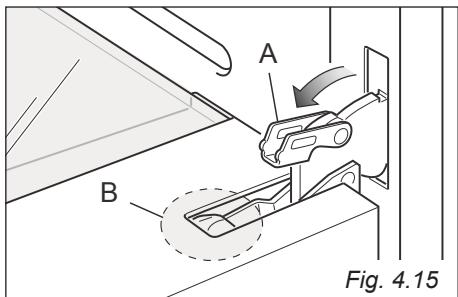
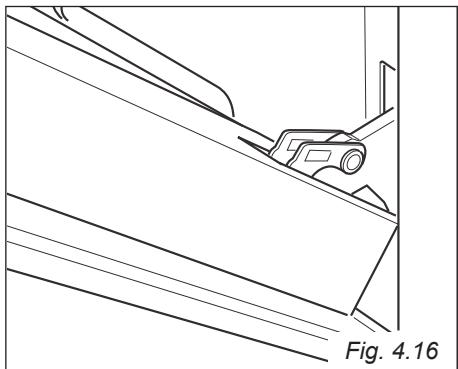

Fig. 4.15
Fig. 4.16
- Open the lever "A" completely on the left and right hinges (fig. 4.15).
- Gently close the door (fig. 4.16) until left and right hinge levers "A" are hooked to part "B" of the door (fig. 4.15).
1. Make sure the door is locked open (see fig. 4.16).